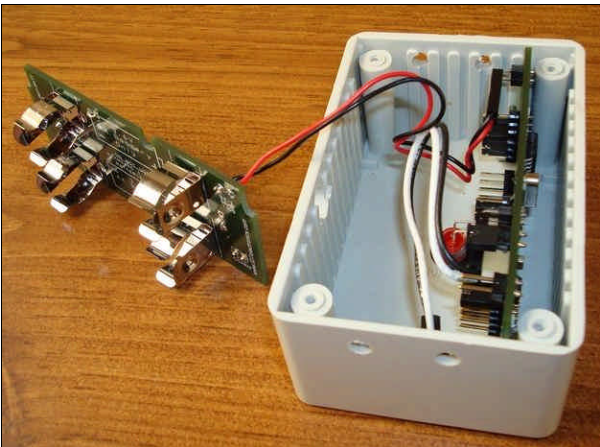

Figure 14: The main circuit board of the EPC-IRD1e is installed in the enclosure, while the battery circuit board is outside the enclosure.
**Note:** It is important to place the circuit boards in the box by using the correct “circuit board guides,” which are the ridges molded into the inside walls of the enclosure. Please note that the main circuit board is placed between the first circuit board guide and the round post in the corner of the enclosure, as shown in **Figure 14**. Further, you will note that the main circuit board is placed between the first circuit board guide and the round cylinder in the corner of the enclosure. Also, in order to make sure that the main circuit board is placed on the correct end of the enclosure, you will note that the small hole in the face of the enclosure should align with the small button that is on the main circuit board.